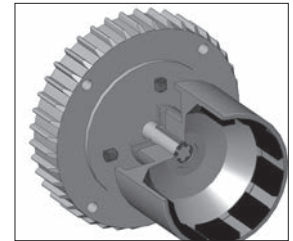

Figure 7 - NEMA
**NEMA Motors:** Install set screws (item 13A) into threaded holes on the side of the outer drive magnet assembly. Using a 3/16" Allen wrench, tighten to 228 in-lbs (25.8 N-m). See figure 7.